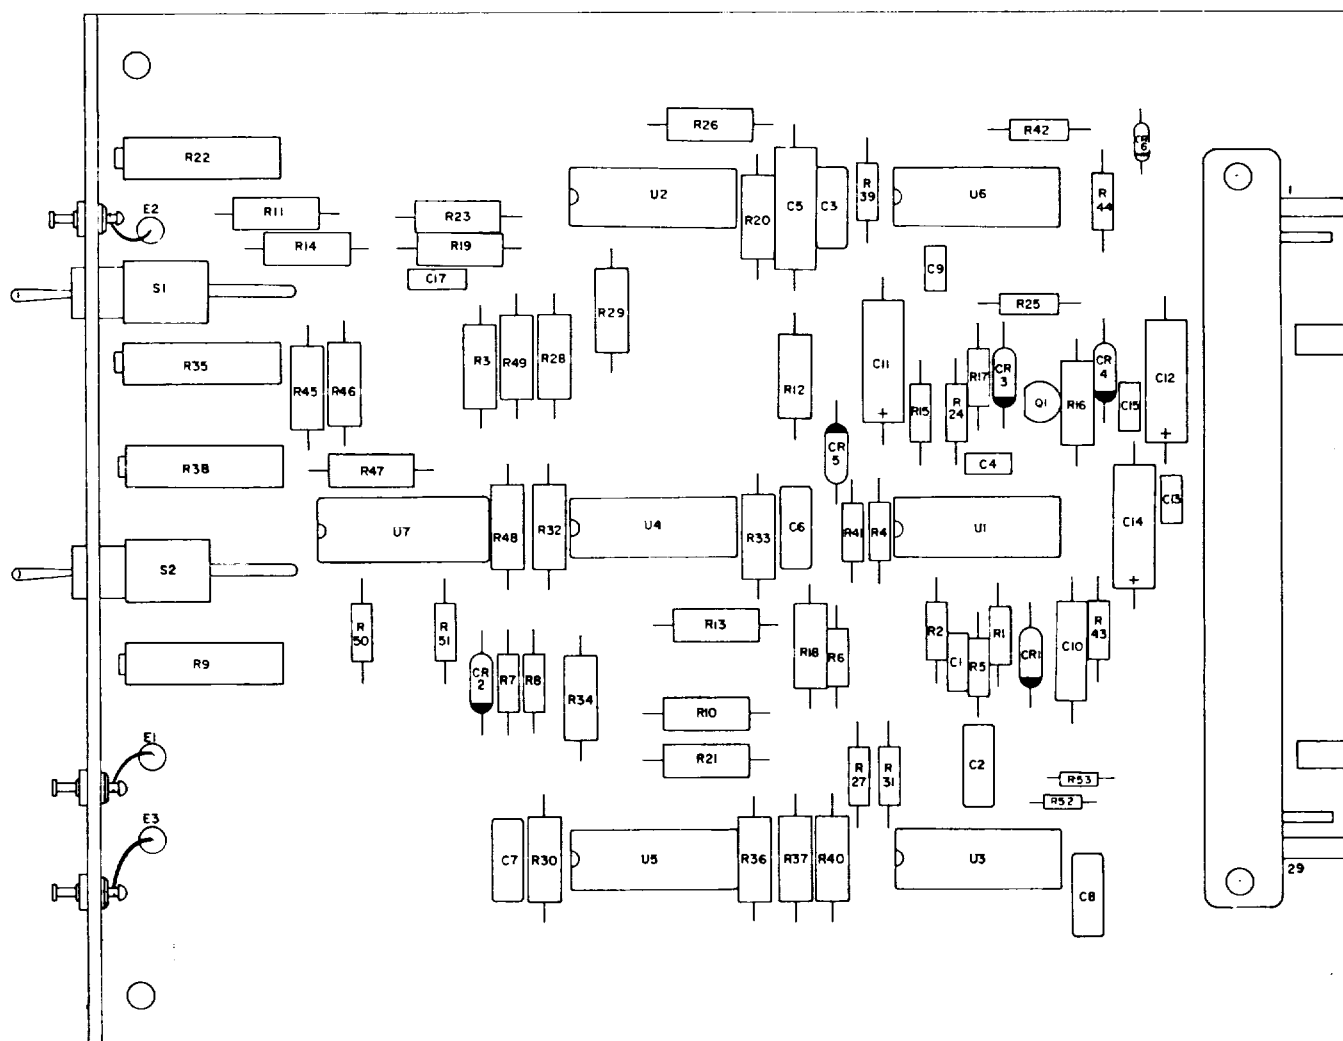

Figure 5-4. Variable Signal Processing Circuit Card Assembly, 1A3A3 Part Location Diagram
d. Variable Signal Processing Circuit Card Assembly (1A3A3) Disassembly. This circuit card assembly should be removed only when servicing or component replacement is required. To remove this circuit card assembly, grasp both edges of the card and pull up. Further disassembly should be limited to removal of parts for repair or replacement. Refer to figure 5-4 for location of components to be replaced.